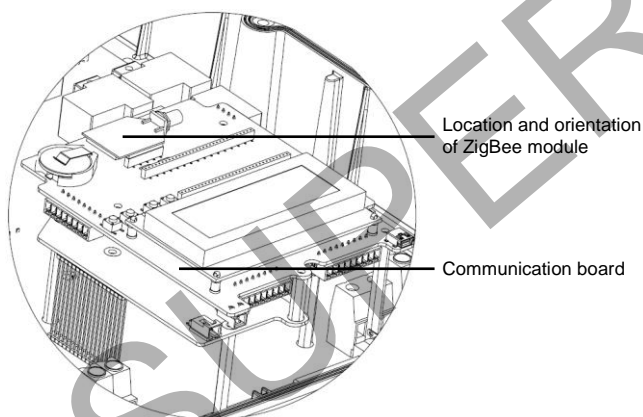

Figure 1: ZigBee Module Location
- 2** Open each device cover and insert the appropriate ZigBee module in its place on the communication board, as shown in Figure 1.
**NOTE:** Make sure to plug in the ZigBee module in the correct orientation as illustrated in Figure 1. There is also a marking on the communication board that shows the correct orientation. Make sure that all the ZigBee module pins are inserted into the communication board socket.